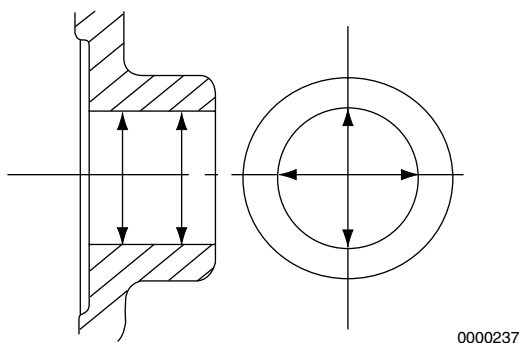

Figure 6-112
6. Measure the diameter of the wrist pin bore on both sides of the piston (**Figure 6-112**). *See Piston on page 6-15 for specifications.* Record the measurements.